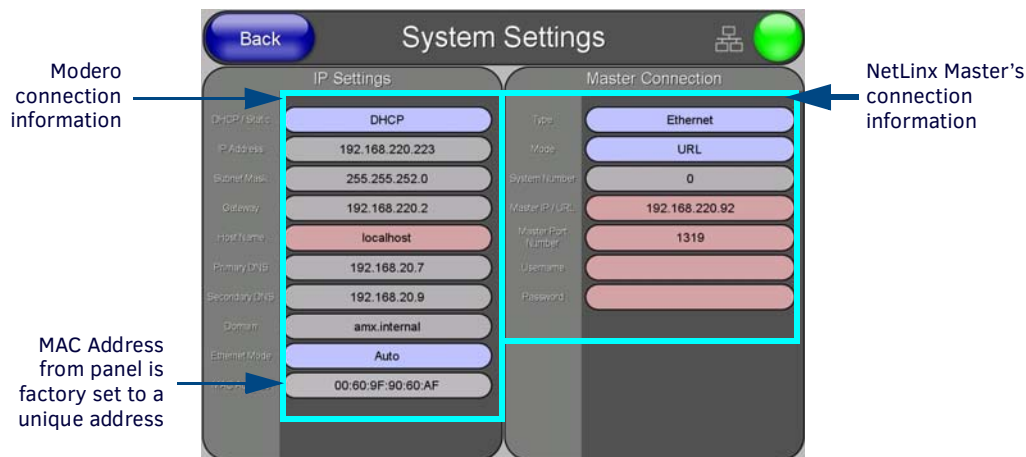

FIG. 70 System Settings page
11. Press the **System Settings** button (located on the Protected Setup page) to open the System Settings page (FIG. 70) and begin configuring the communication settings on the panel to match those of the target Master.